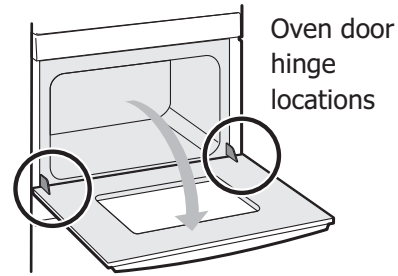

Figure 18: Door hinge location
1. Open oven door completely, horizontal with floor (See Figure 18).
3. Fully open the oven door, horizontal with floor See Figure 18).